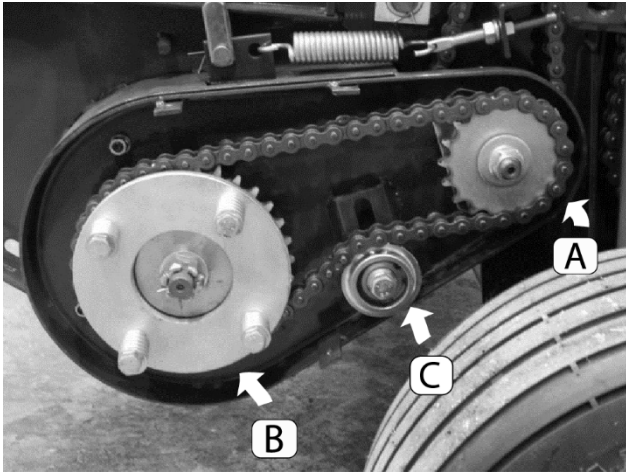

Figure 5 Left side of baler
The pickup drive chain (Figure 5, A) transfers power to turn the pickup. The friction clutch (B) slips in overload conditions to prevent damage to the pickup. Chain tension is controlled by the idler (C).